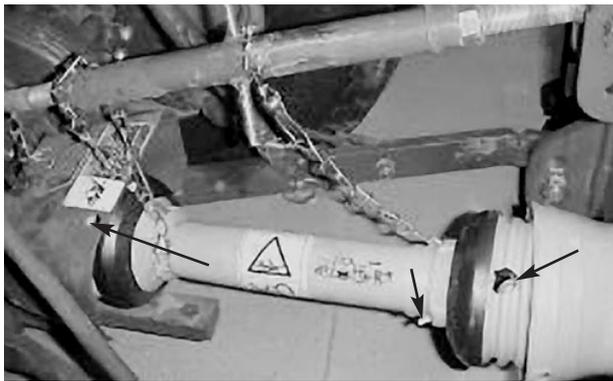

Figure 23
LUBRICATE DAILY—PTO shaft (3) (Fig. 23).